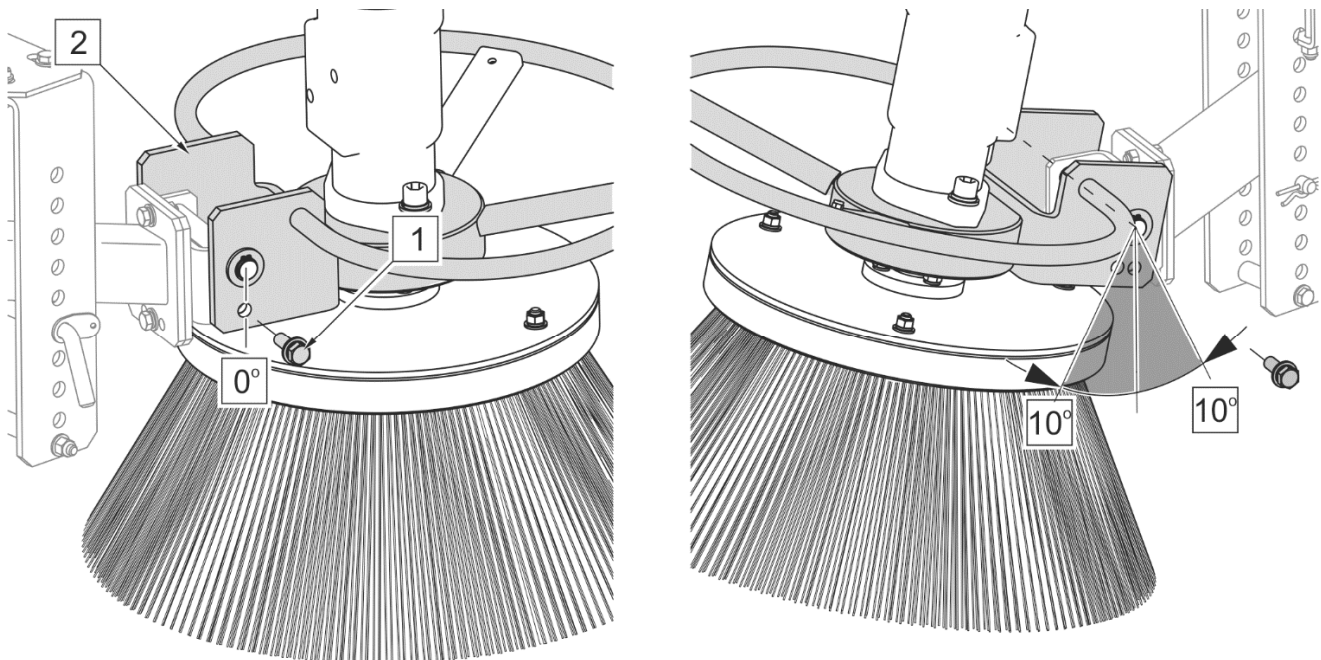

FIG. 5.5 Adjustment of longitudinal tilt
(1) - longitudinal tilt retaining bolt, (2) - brush head bracket
Longitudinal tilting of the head can be set in three positions (FIG. 5.5). This involves changing the position of retaining bolt (1) in head bracket holes (2).